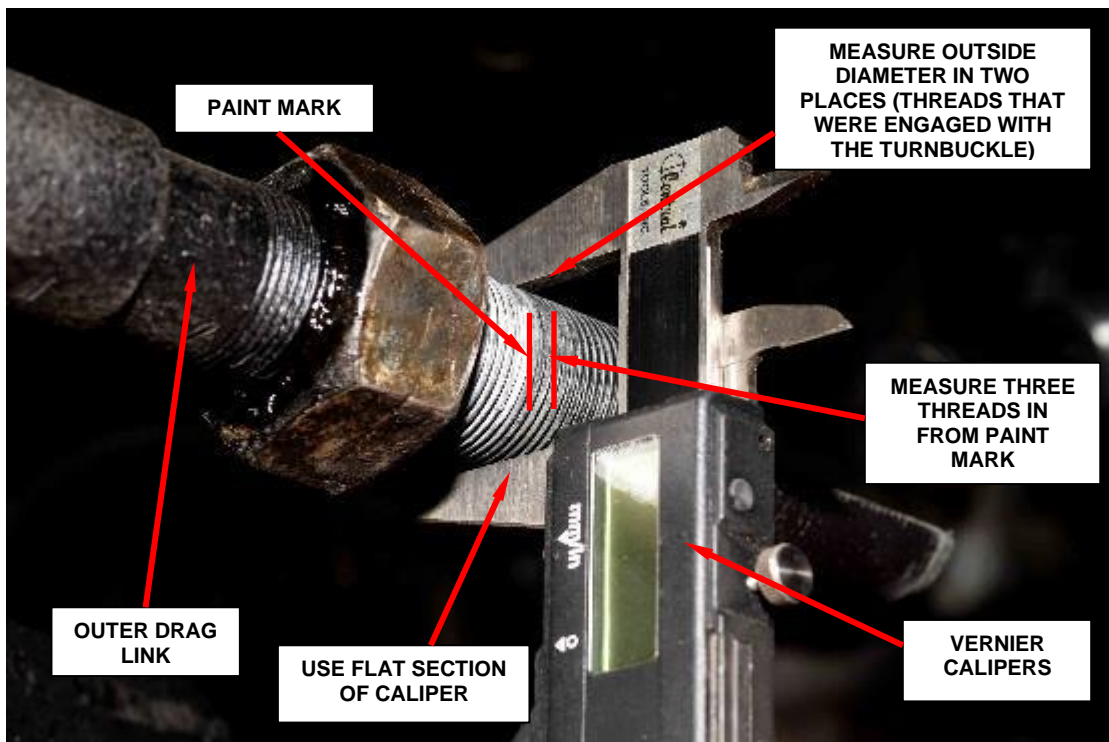

Figure 6 - Measure Outside Diameter of Outer Drag Link
- Using Vernier Calipers, measure and record the major outside diameter of the outer drag link threads 5mm (0.20 in. - approx 3 threads) from paint mark denoting end of turnbuckle (Figure 6). **Be sure to measure using the flats on the calipers, do not measure inside the thread pitch (Figure 6).**